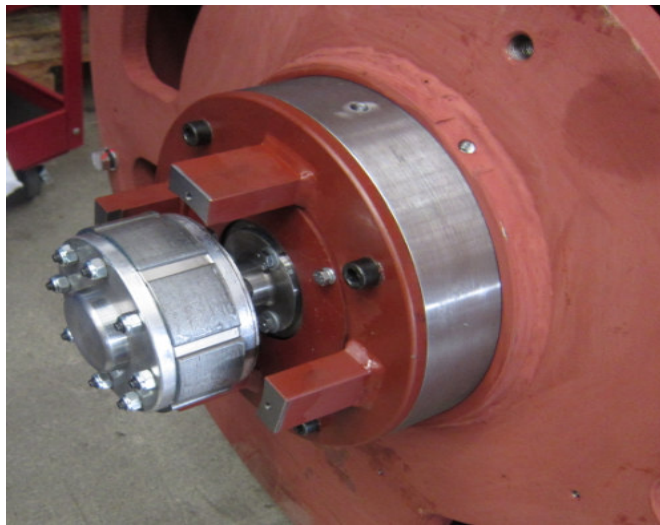

Figure 7: The PMG shaft pressed in and attached with main rotor with 3 pcs hexagonal M8 screw.
- Install the retainer of PMG stator and end cover in the NDE shield, then tighten 4 pcs of socket M12 screws and 4 pcs of hexagonal M6 screws (see: Figure 7).
- Install the shaft of PMG rotor in main shaft, then tighten the 3 pcs of hexagonal M8 screw (see: Figure 7).